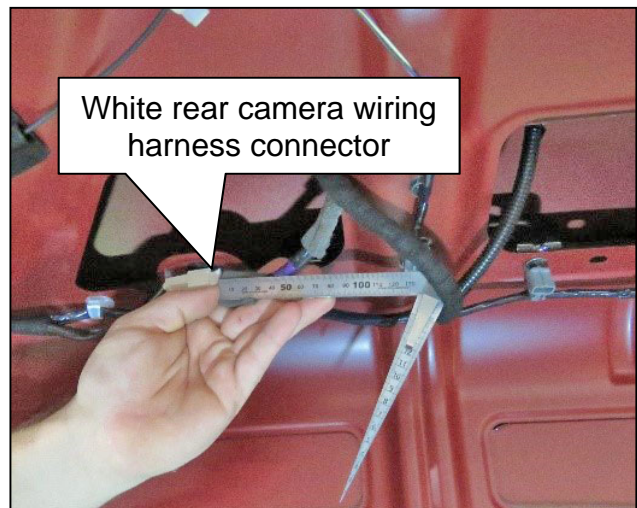

Figure 5
7. Measure 30 mm from the white rear camera wiring harness connector, as shown in Figure 5.